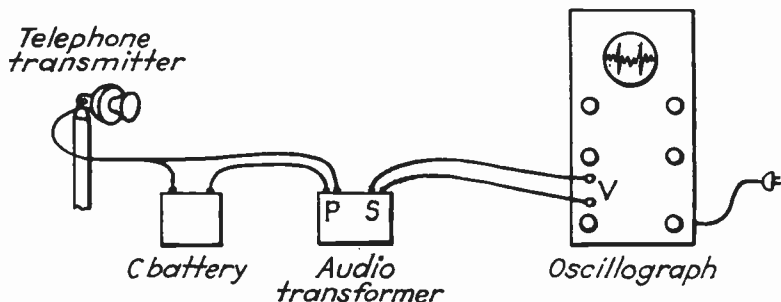

FIG. 28. High and low frequency on the oscillograph.
The frequency of a wave can be shown by the circuit given in Fig. 28. The frequency is shown by the space
Step 1. Connect a microphone, a C battery, and an audio or microphone transformer as shown in Fig. 28. Connect the secondary of the transformer to the vertical posts on the oscillograph.